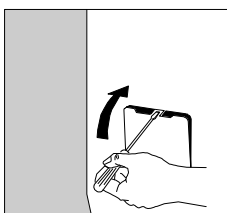
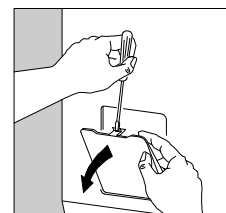

fig.6
fig.7
■ Carefully open the door, with a screwdriver for example (fig.6 and fig.7) :